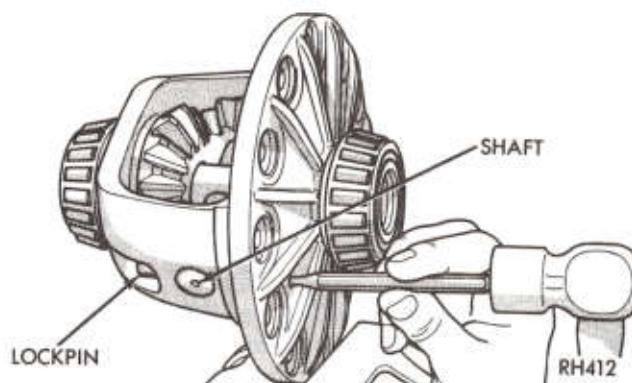

Fig. 6—Removing Differential Pinion Shaft Lockpin (Typical)
(10) Spread carrier until .015 to .020 inch (.381 to .508mm) spread is shown on indicator. **Do not exceed this limit as it will result in permanent distortion of housing.**
(11) Remove dial indicator fixture.
(12) Pry differential case assembly loose with large screwdriver or bar and lift from carrier. **Pry out differential case assembly as straight up as possible using leverage against differential case and carrier to prevent damage.** Place differential case assembly in holding fixture or use soft jaws if secured in vise.
(13) Remove gear carrier spreader.
(14) Knock out inner oil seal from right axle tube with an old axle shaft or rod.
(15) Remove cups from differential case bearings. **If bearing cones and cups are not worn or damaged and are to be reassembled, make certain each mating cup and cone are paired together with the bearing cap.**
(16) Remove drive gear mounting bolts and remove gear. Discard bolts.
(17) Drive out lock pin securing differential pinion shaft to case (Fig. 6).
(18) Remove differential pinion mate shaft, differential pinion mates and thrust washer (one back of each pinion). Remove differential side gears and thrust washers (one back of each gear). **If it was previously found that excessive drive gear runout existed, the cause should be determined at this time.**
(19) If drive gear was found to be seated tightly against differential case flange at all points with no uneven surfaces or other causes preventing good alignment, check runout of drive gear mounting flange surface.
(20) Install differential assembly (with drive gear removed) in carrier housing. Attach dial indicator as previously described and check runout of drive gear mounting face of differential case flange.
(21) If total indicator reading taken while rotating differential case indicates excessive runout, the condi-